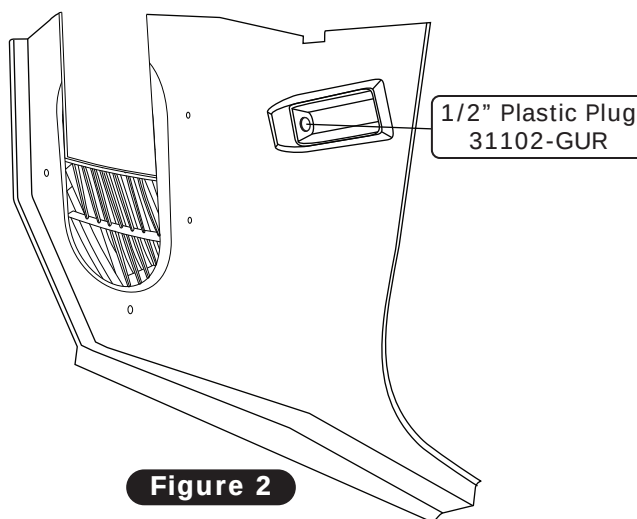

Figure 2
5. Install 1/2" plastic plugs in kick panel (See Figure 2, below).